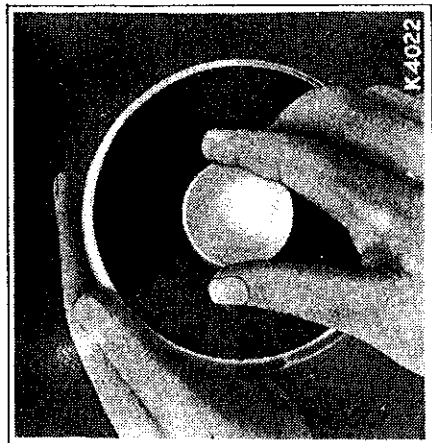

Fig. 4.
This device allows the balance wheel to run free, so that bobbins may be wound without operating the stitching mechanism. To loosen the wheel, hold it with the left hand, and with the right hand turn the stop motion screw over towards you, as shown in Fig. 4.
Loosen the balance wheel (see Fig. 4). Place an empty bobbin on the bobbin winder spindle and push it on as far as it will go. Place a reel of thread on the spool pin (1), and lead the thread into the guide (2), under and between the tension discs (3), and, from the inside, through one of the holes in the left side of the bobbin (4). Press down the bobbin winder pulley against the belt, and then gradually apply pressure to the foot controller to operate the bobbin winder. The end of the thread must be held until a few coils are wound and should then be broken off. When sufficient thread has been wound upon the bobbin, release pressure on the foot controller, pull the bobbin winder pulley away from the belt and remove the bobbin from the spindle.